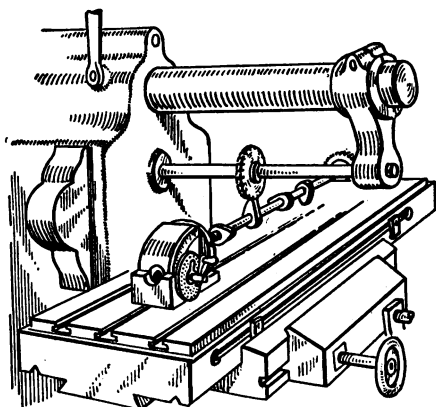

Fig. 188. Checking up Camshaft in Milling Machine
**Twisted Camshafts.** With the present form of camshaft having the cams forged integral, troubles and irregularities between one cylinder and another, which the repair man finds difficult to trace or run down, sometimes develop in the running of the engine. A fairly light camshaft will sometimes become twisted, usually right at a cam where the stress is. When trouble of this kind is indicated, the camshaft should be removed and tested. A good way to do this is to place the shaft in the milling machine with the index head set so that one revolution of the shaft can be divided into four equal parts. Place a thin disc in the arbor, then mount the shaft and bring it up to the disc. Choose one of the cams and set the disc to the exact center of the point of it. Then, by turning the shaft a quarter-turn each time, the other cams can be tested with their relation to this one. Sometimes a difference of  $\frac{1}{8}$  inch will be found in this way. The lay-out for this is seen in Fig. 188.